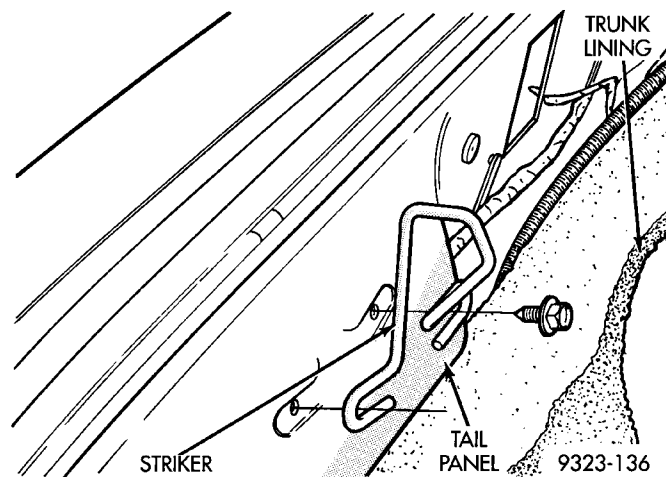

Fig. 75 Trunk Latch Striker
- (1) Release trunk lid latch and open trunk lid.
- (2) Remove push-in fasteners holding trunk lining to tail panel.
- (3) Separate trunk lining from tail panel.
- (4) Remove bolts holding trunk latch striker to tail panel (Fig. 75).
- (5) Separate striker from vehicle.